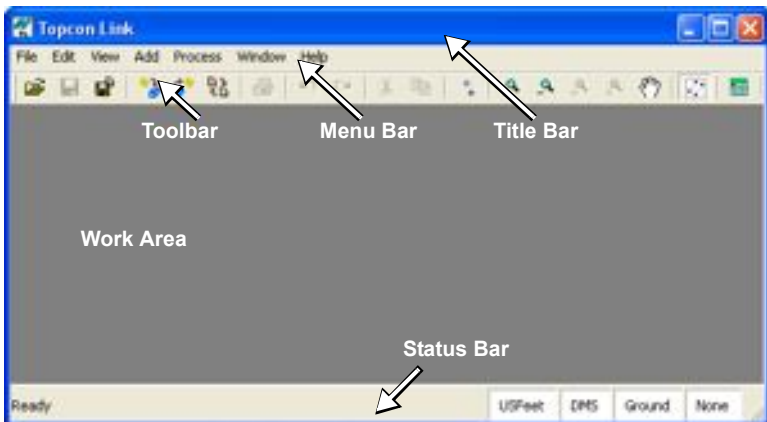

Figure 1-9. Topcon Link Main Screen Components
4. Highlight the desired features (projection or projection and geoid) in the *Custom Setup* window (Figure 1-9)
The main screen has the following components (Figure 1-9):